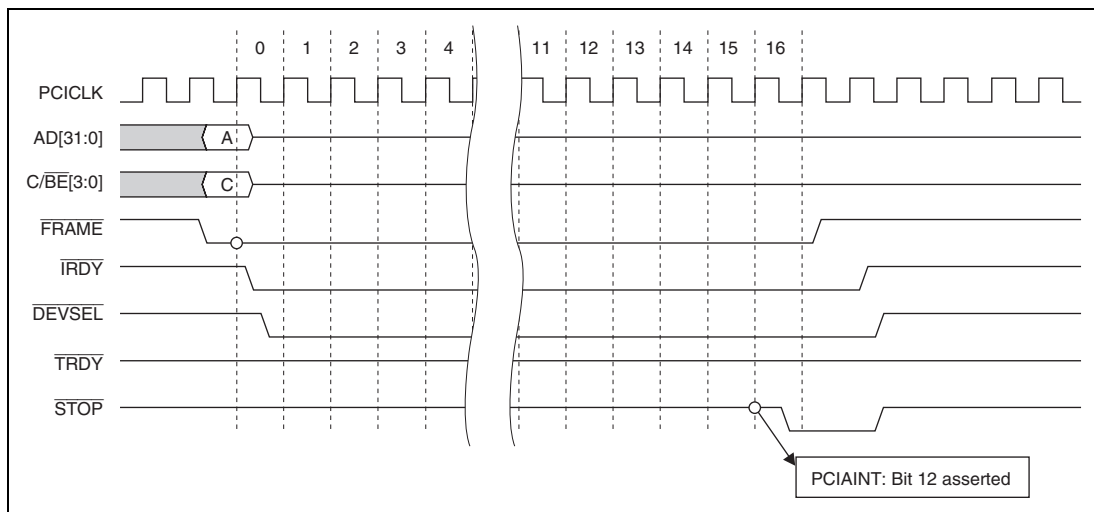

**Figure 22.24 Target Bus Timeout Interrupt Generation Example 1**
1. Target latency: A target bus timeout interrupt occurs (see figures 22.24 and 22.25).